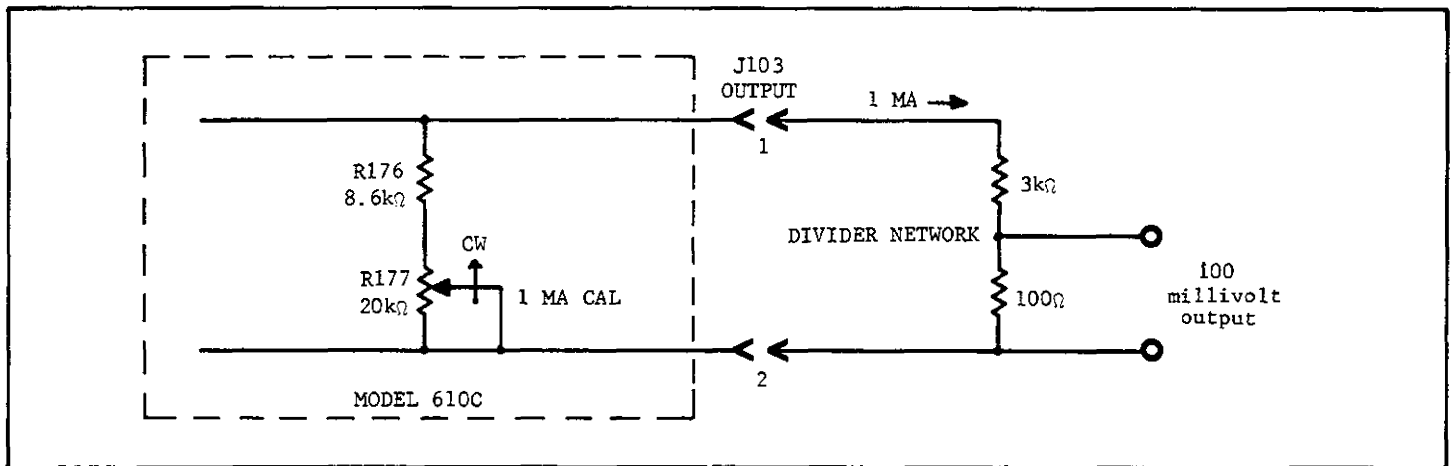

FIGURE 9. Recorder Output, 100 mV Divider Network.
b. Servo Rebalance Recorder Output. For some types of recorders a divider network is required to provide a 50mV or 100mV full scale output. In this application the IMA-3V switch should be set to IMA. The divider resistors should be selected to provide a voltage suitable for the recorder in use. A typical example is shown in Figure 9. The full voltage output is 3V. Therefore, the total divider resistance should be 3000 ohms. The voltage drop across the 100Ω resistor is then adjusted for 100mV by adjusting the IMA CAL control.